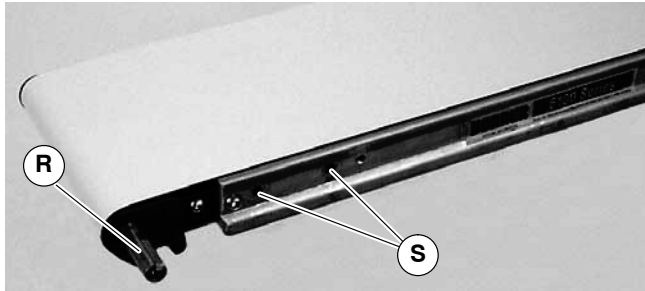

**Figure 11**
3. If required, change gearmotor position by removing four (4) screws (Q of Figure 11). Rotate gearmotor to other position and replace screws (Q). Tighten to 103 in-lb (12 N-m).